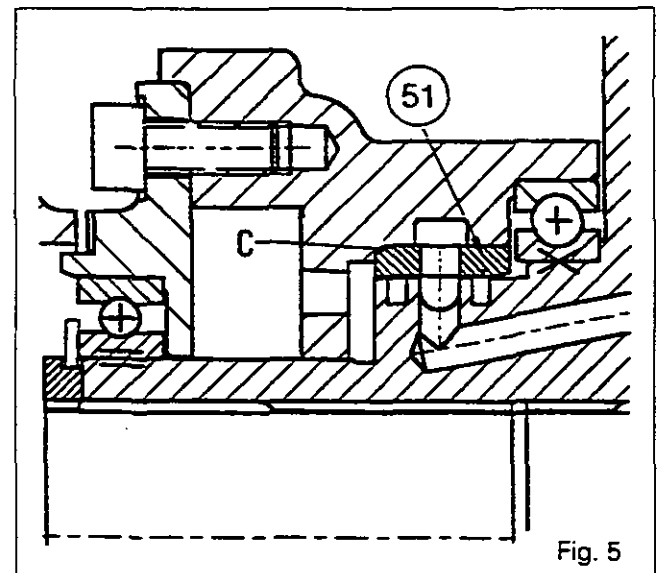

Fig. 5
68. If the 1.5-bar valve and bush (51) were removed, tighten the valve to a torque of 28 to 30 Nm and fit the bush using a suitable fixture, with chamfer «C» oriented as shown in Fig. 5.
69. Lubricate the bush. Assemble the pump body (12) on the clutch housing (23).
70. Oil the pump (53) and position it with its flats aligned with the flats on the clutch housing (23). By hand, check the angular displacement of the rotor on the flats on the clutch housing (23).
71. Refit the pump cover (11). Fit the bearing (55). Position the circlip (56). Tighten the bolts (54) to a torque of 25 to 35 Nm.
72. Fit O-ring (1) and bushes (2). Repeat procedure 7.